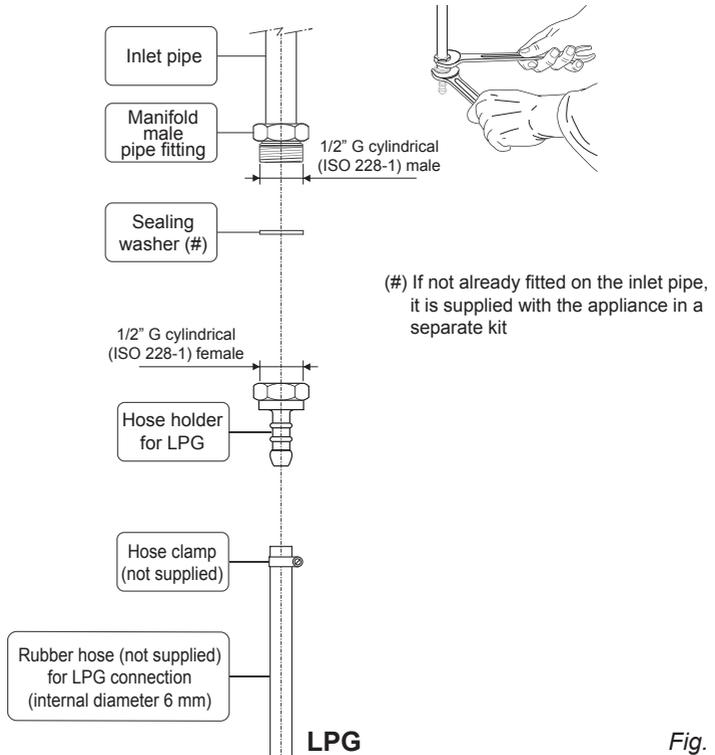

Fig. 7.2
1. If not already fitted, fit the LPG hose holder on the inlet pipe, making sure that you place the sealing washer between them (as shown in Fig. 7.2).
- use two spanners when fitting the hose holder (Fig. 7.2).